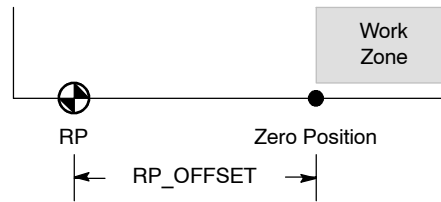

Figure 9-15 Relationship Between RP and Zero Position
- The Position Control wizard provides advanced reference point options that allow you to specify an RP offset (RP_OFFSET), which is the distance from the RP to the zero position. See Figure 9-15.